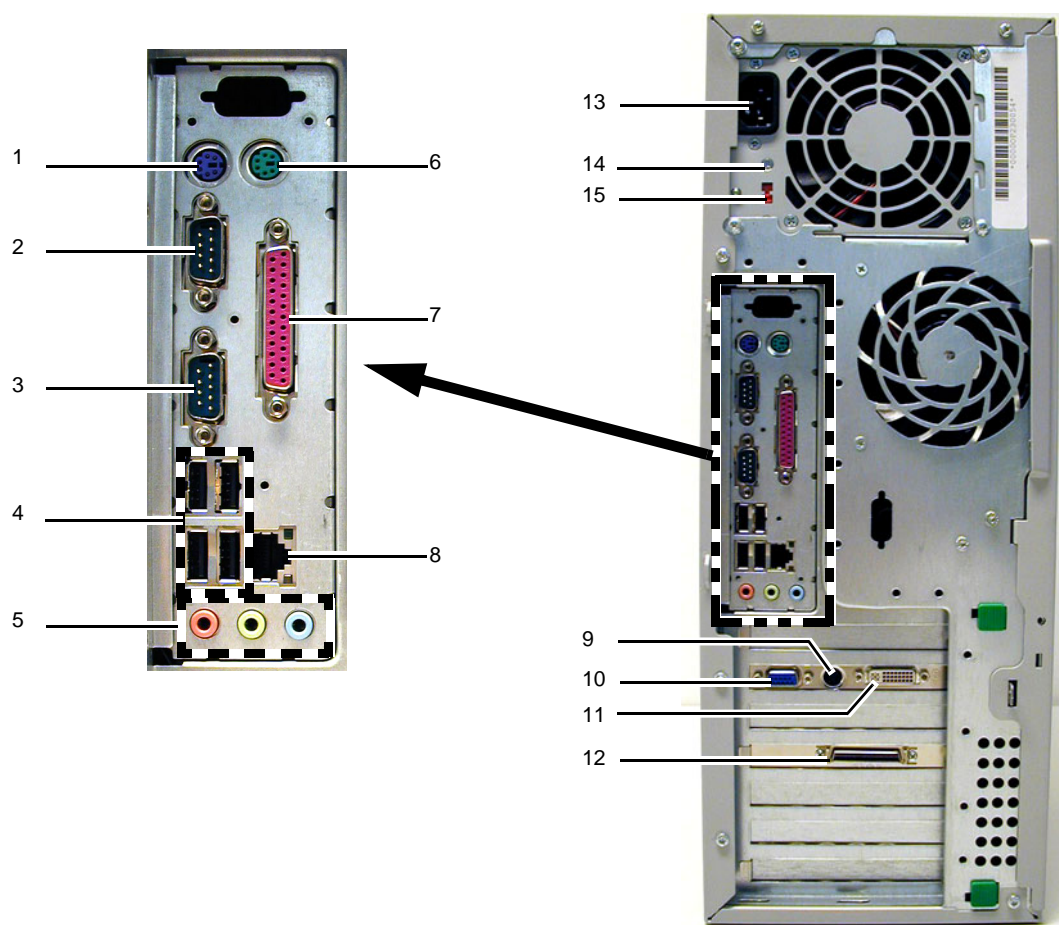

Figure 3-14 Connectors at Rear of HP xw4100/xw4200/xw4300/xw4400/xw4600
- Figure 3-14 "Connectors at Rear of HP xw4100/xw4200/xw4300/xw4400/xw4600" on page 3-25